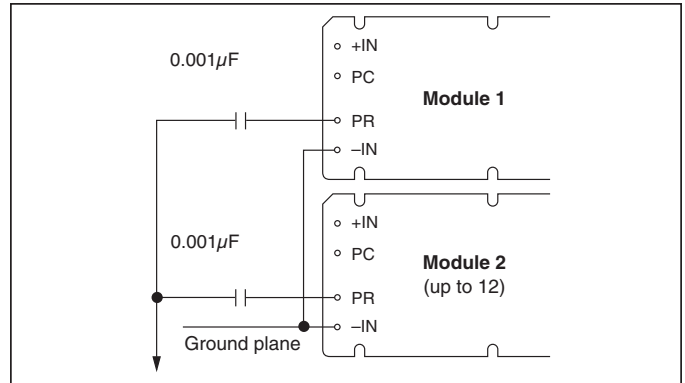

Figure 10 — AC coupled single-wire interface.
**AC coupled single-wire interface.** All PR pins are connected to a single communication bus through 0.001  $\mu$ F (500 V) capacitors. This interface supports current sharing and is fault tolerant except for the communication bus. See Figure 10.